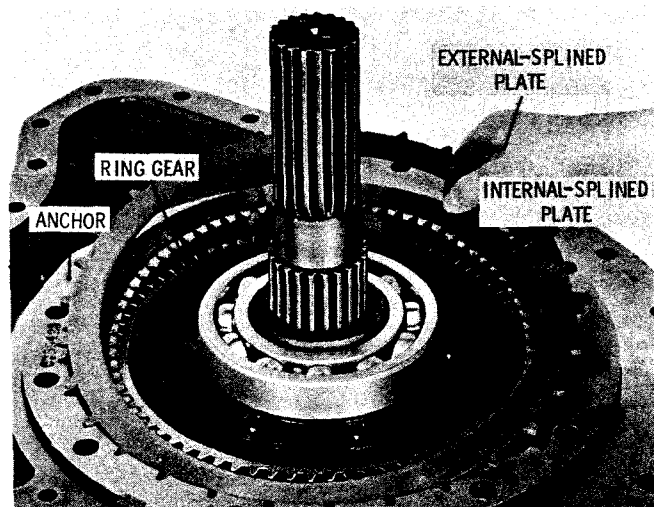

Fig. 7-29. Installing reverse-range clutch plates
(2) Beginning with an internal-splined plate, alternately install five internal- and five external-splined, reverse-range clutch plates (fig. 7-29). Internal-splined plates engage the reverse-range ring gear, and external-splined plates engage the reverse-range clutch anchor.
(3) Install 14 reverse-range clutch piston return springs into holes in the clutch anchor.